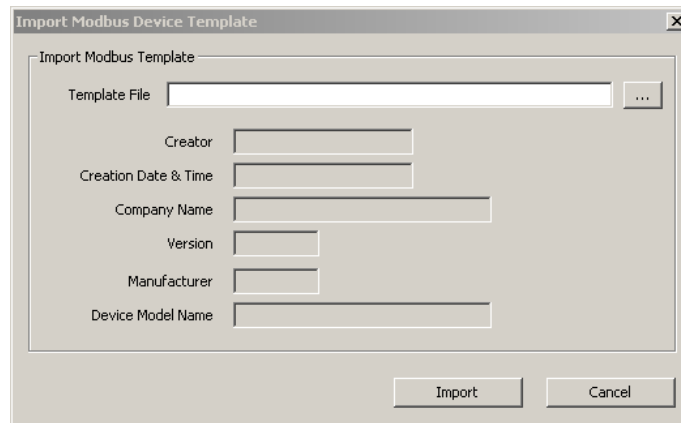

Figure 152 Import Modbus Device Template dialog.
3. Click on the **Create From Template** button. This opens the **Import Modbus Device Template** dialog shown in Figure 152.
3. Click on the **Create with DP** button. This opens the **Import Modbus Device Template** dialog shown in Figure 152.